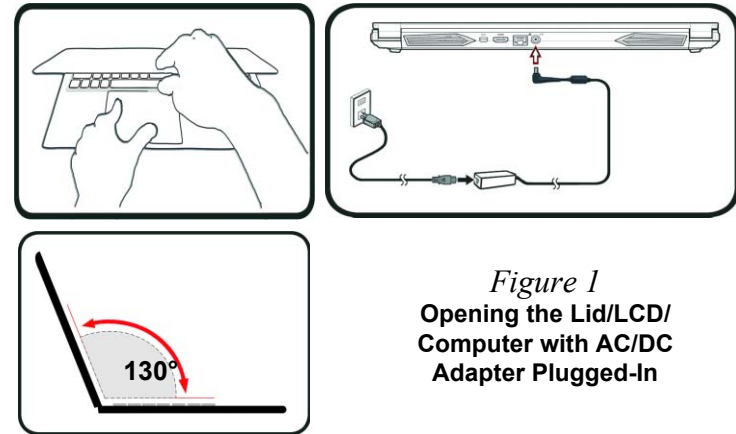

Figure 1
6. Use one hand to raise the lid/LCD to a comfortable viewing angle (do not exceed 130 degrees); use the other hand (as illustrated in Figure 1) to support the base of the computer (**Note: Never** lift the computer by the lid/LCD).